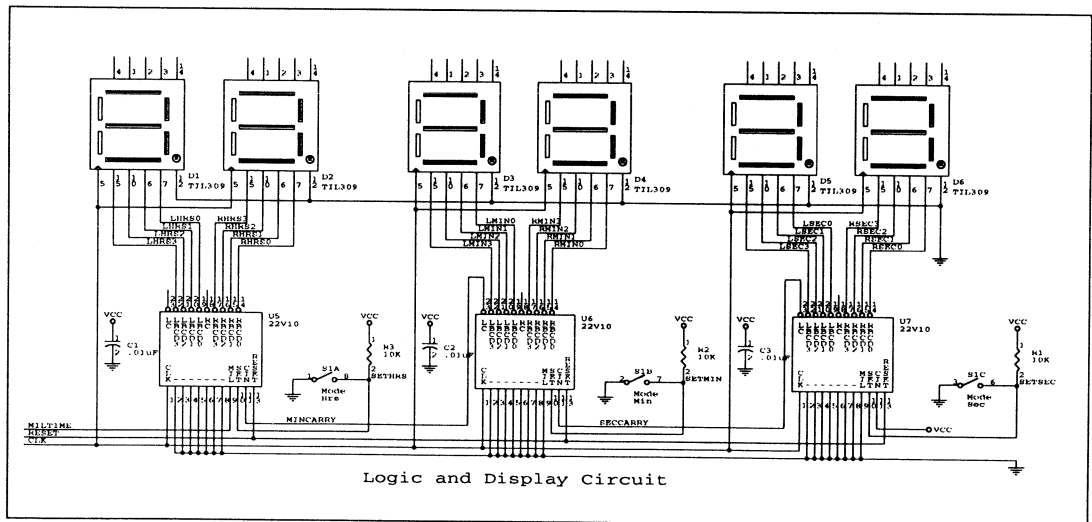
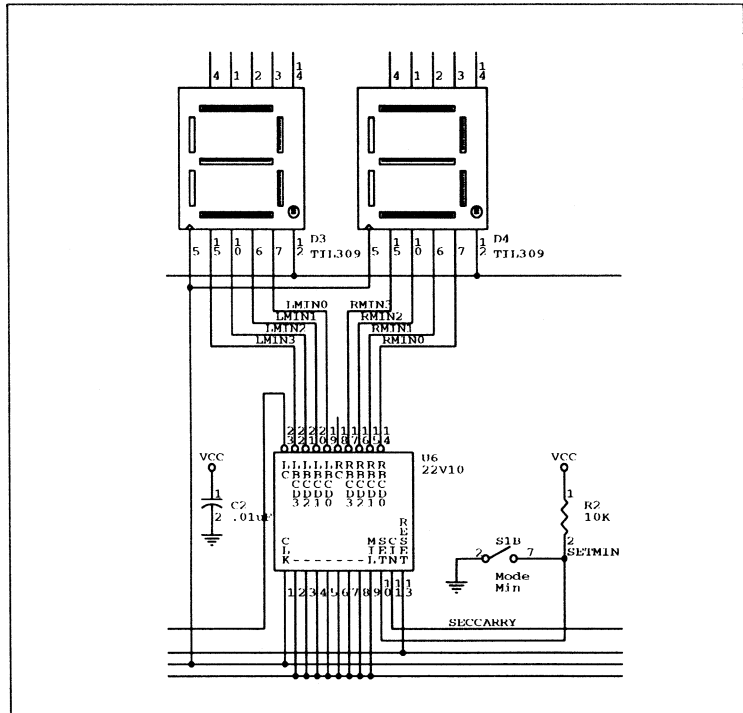

Figure 6-1. The logic and display circuitry.
Figure 6-2. The minutes circuit.
Figure 6-1 shows the portion of the schematic you capture in this chapter.
As you look at the schematic of the logic and display circuitry in figure 6-1, it becomes apparent that three regions are nearly identical—seconds, minutes, and hours. Take advantage of this duplication by creating the schematic for the minutes area (figure 6-2), and copying it to the other areas.
The display and logic circuit shown in figure 6-1 contains so much detail that your immediate task of capturing the minutes area may seem more difficult than it actually is. Figure 6-2 shows only the parts and wires associated with the minutes area of the schematic.
By comparing figure 6-2 with figure 6-1, you see the similarities in each of the areas. The steps in the next section describe how to build the minutes circuit.
5. Select **Rotate** to change the part orientation to match the part orientation shown in figure 6-2.
2. Referring to figure 6-2, move the pointer to the bottom of the resistor symbol and select **Place Wire Begin** to start placing a wire.
1. Referring to figure 6-2, place the wires between the 22V10 part and the right-hand seven segment display as shown. To begin a new wire, instead of issuing the <P><W> commands, just press the <F1> key, and then proceed as usual.
2. Continue using the macro and place the wires between the 22V10 part and the left-hand seven segment display as shown in figure 6-2.
3. Select **REPEAT** six more times to place the remaining wires of this length shown in figure 6-2.
4. Place a single horizontal wire along the bottom of these wires as shown in figure 6-2.
1. Select **PLACE Power Place** to put power symbols above the resistor and capacitor symbols, as shown in figure 6-2.
4. Place the remaining wires shown in figure 6-2.
5. Place junctions at the remaining locations shown in figure 6-2.
6. Examine your worksheet and carefully compare it with the schematic in figure 6-2. The exact position of objects is not as important as the presence or absence of these objects.